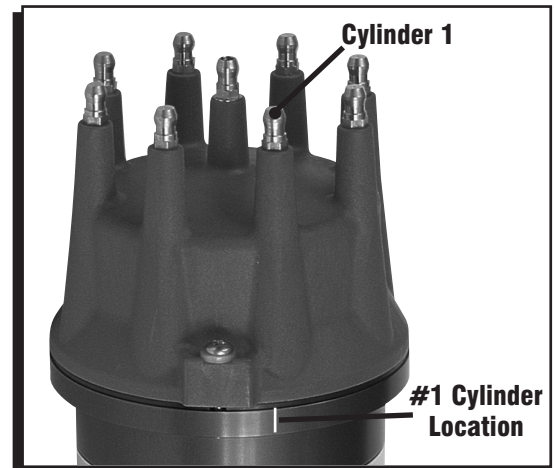

Figure 1 Marking the Number One Location.
1. Locate which cap terminal is going to be the number one cylinder. Mark on the housing this location then remove the cap (Figure 1).